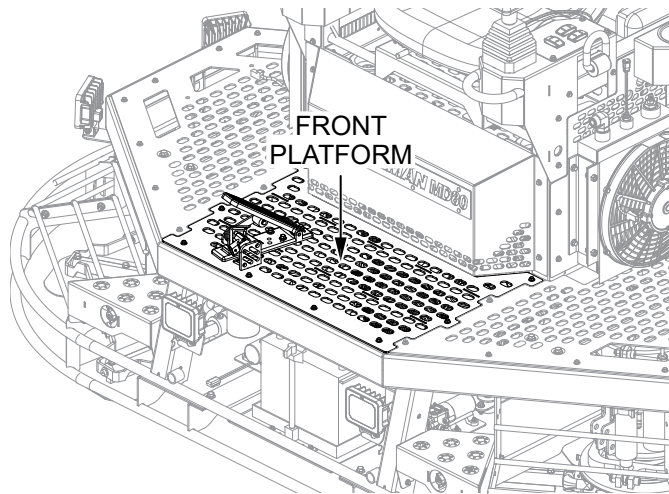

Figure 41. Remove Front Platform
1. Remove the **front platform** (Figure 41).